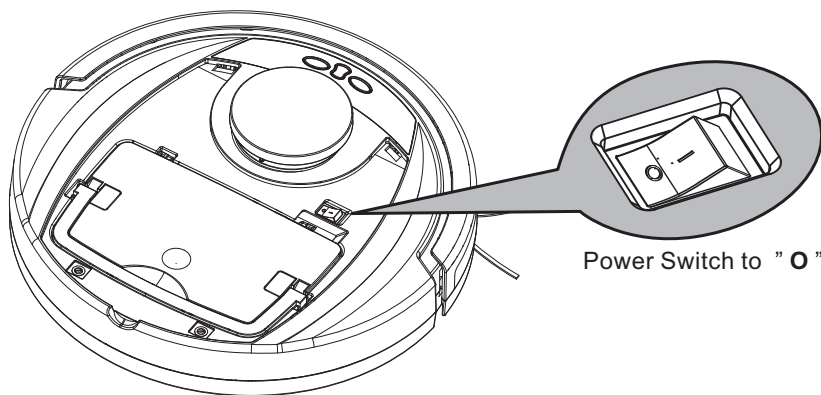

Fig. 3
3. **Power Off:** In standby mode, press power button “” for over 3 seconds and also turn off the power switch (Fig. 3) inside the top cover to power off the unit completely. If not using the cleaner for a period, please turn off the power switch (Fig. 3) inside the top cover completely.